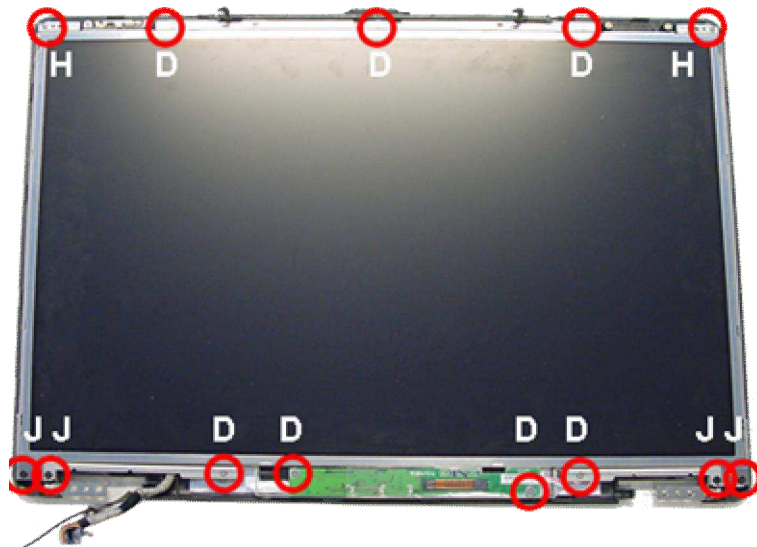

Fig. 14 LCD display panel.
5. Remove the screws (2xH) at the top (see Fig. 14).